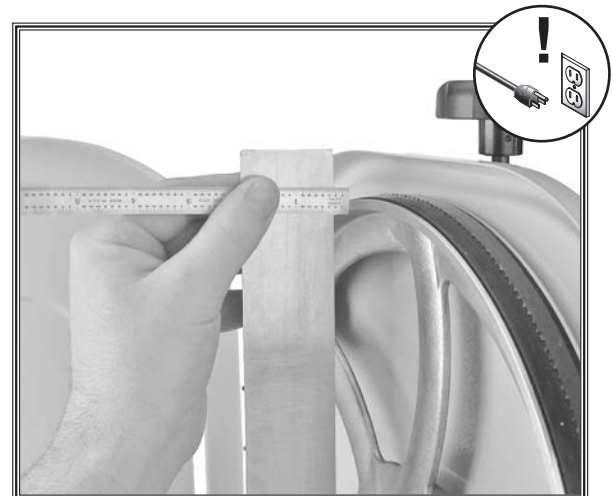

Figure 49. Example of measuring the distance to shim the wheel to be coplanar.
3. With straightedge touching both rims of wheel that does not need to be adjusted, measure the distance away from the other wheel with a fine ruler, as shown in **Figure 49**. The distance measured with the ruler is the distance this wheel must be shimmed.